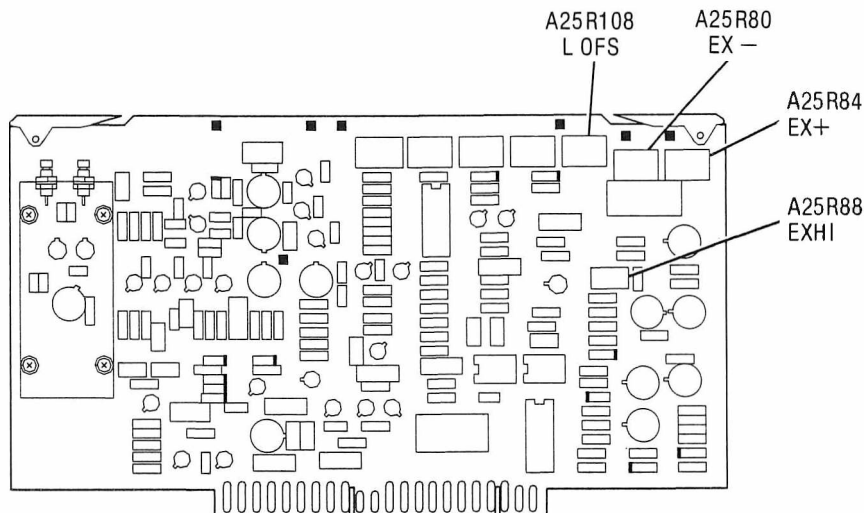

Figure 5-62. Flatness and External Leveling Adjustments Location
30. Access Calibration Constant Number 13 by entering the following: **[SHIFT][GHz][1][3][Hz][SHIFT][MHz][1][2][Hz][SHIFT][kHz][2][2][Hz]**. Adjust Calibration Constant Number 13 for a power meter indication of P. Then adjust A25R108 LOFS (Figure 5-62) for a 0 dBm power meter indication.